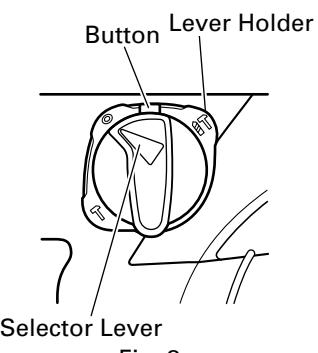

Fig. 8
- Align ▲ of the selector lever and ○ of the lever holder as illustrated in Fig. 8.